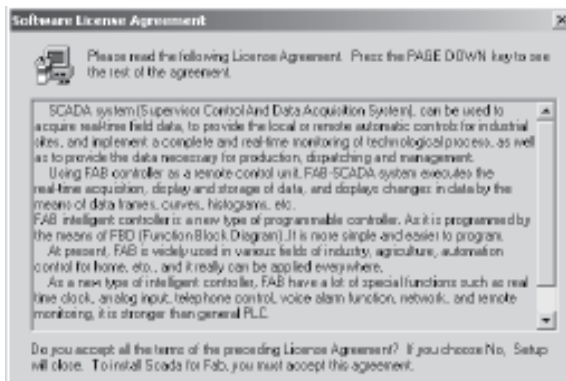
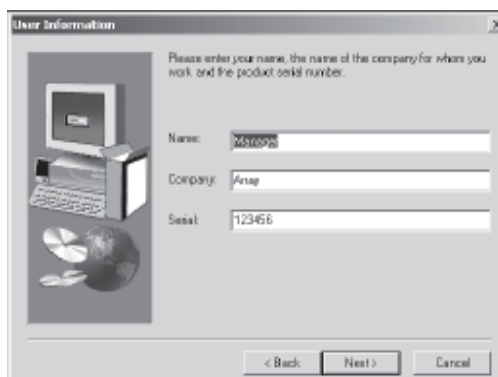

Fig. 2-2 Installation Interface 2
Fig. 2-3 Installation Interface 3
Step2. Click to continue in Fig. 2-2. Key in the users information and click to continue in Fig. 2-3;